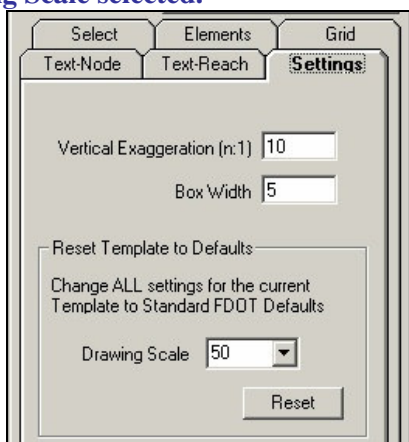

Figure 5.24
At the top portion of the window, the user has three options. (1) click on the 'Draw' button and the profile will be drawn in the CAD window. (2) click on the black arrow buttons to move back or forward to another template (21-40) and then press 'Draw' to draw in the CAD window. (3) click on the downward pointing white triangle button to open the rest of the window (see figure 5.24).
Note: To get started quickly, setup a template using the 'Reset Template to Defaults' as seen in figure 5.24. This will setup all level/symbology and text characteristics based on the Drawing Scale selected.